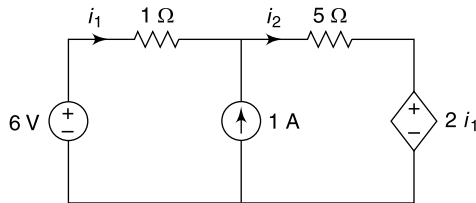

Fig. 4.147 Circuit of Ex. 4.116
4.116 Find i_1 and i_2 in the circuit shown in Fig. 4.147 using superposition theorem.